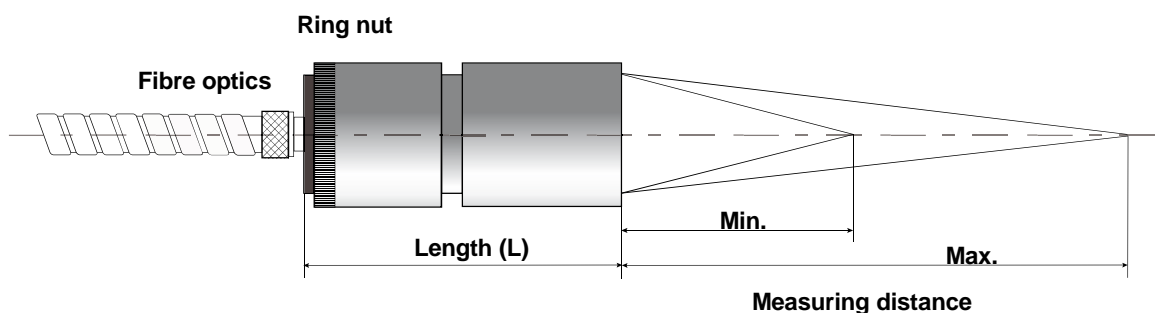

Fig. 7 Setting the vario optic head
2. Loosen the ring nut (fig. 7) by turning it in a counter-clockwise direction.